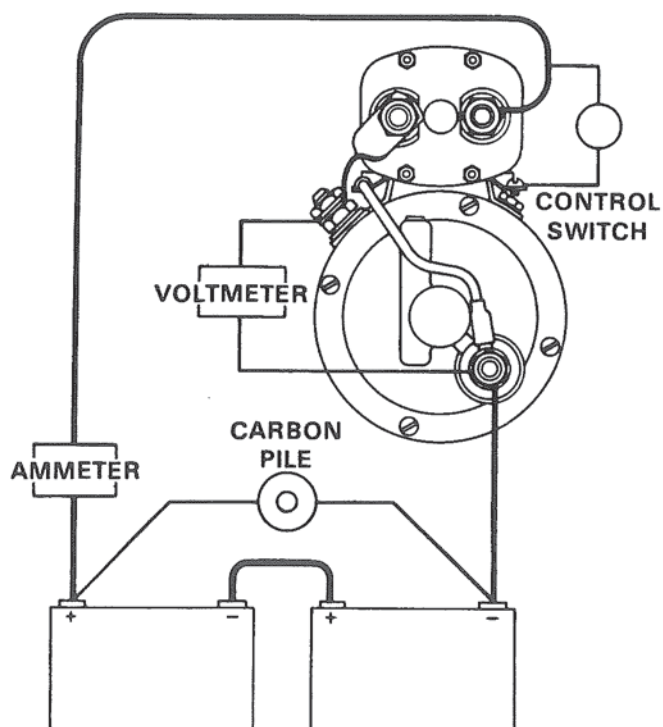

Figure 20. Current Draw Test.
8. Test motor for free running current draw. Connect as shown. Figure 20.
9. If current draw is excessive, check bearing alignment and end play. Two (2) or three (3) raps with a rawhide hammer will often help bearing alignment.